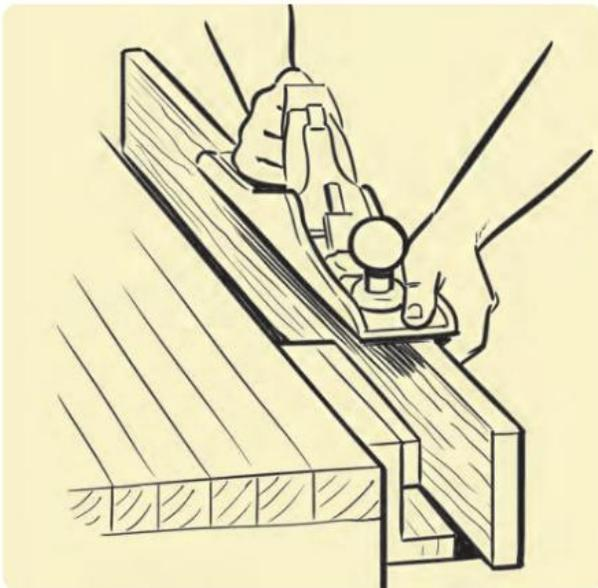

Figure 3.22 Once the timber is secured on the bench vice, use a smoothing plane.
- Plane the face edge of the timber using a bench vice. The timber should be fixed firmly in the vice and planing should be done carefully. A bench vice is shown in Figure 3.22.